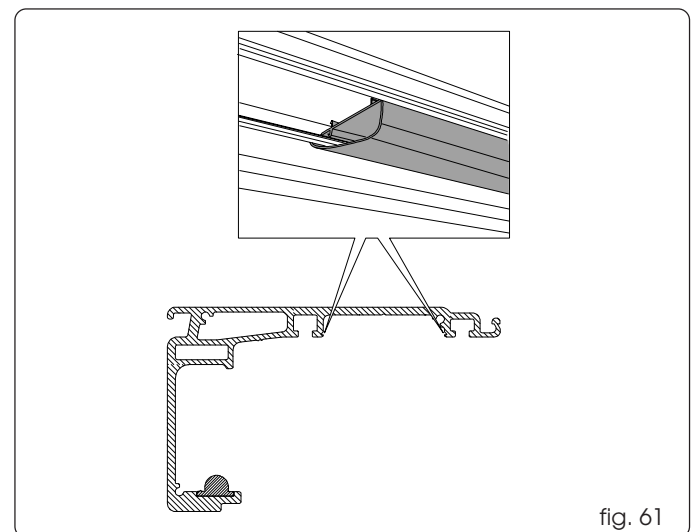

fig. 61
Using pressure, insert the cable raceways in the seat of the support profile not occupied by the activation module, as shown in fig. 61 ref. ①.